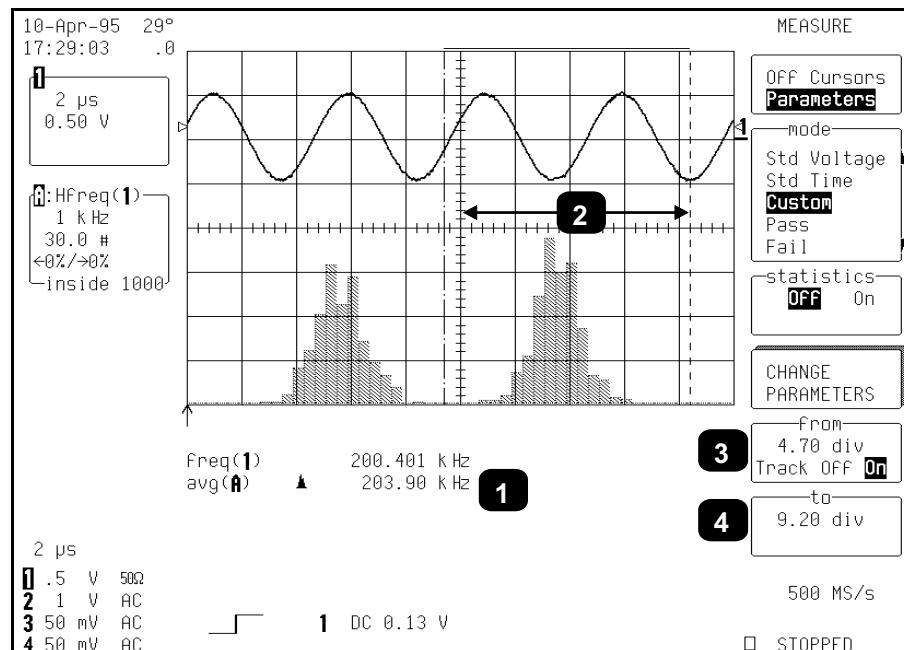

Figure 2.16
Figure 2.16 shows the average, “avg(A)” (Annotation 1) of the distribution between the parameter cursors for a histogram of the frequency (“freq”) parameter of a waveform. The parameter cursors (2) are set “from” 4.70 divisions (3) “to” 9.20 divisions (4) of the display.